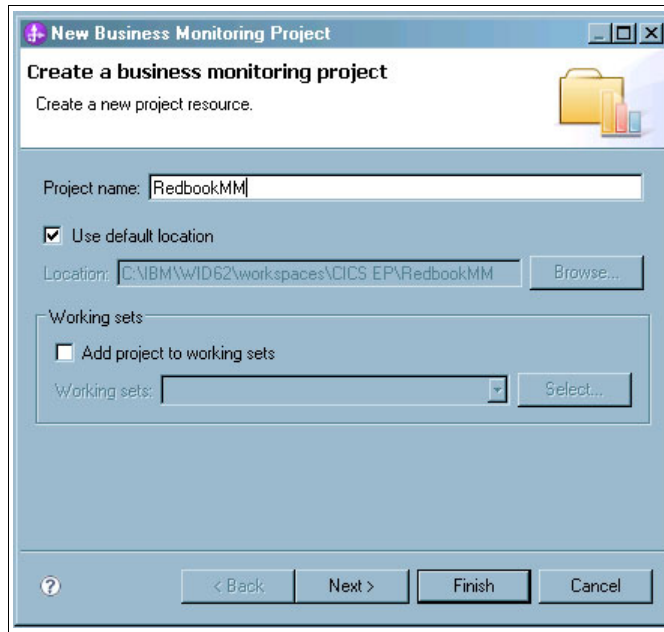

Figure 8-26 Create new project
5. Enter a name for the project (we chose RedbookMM). See Figure 8-26.